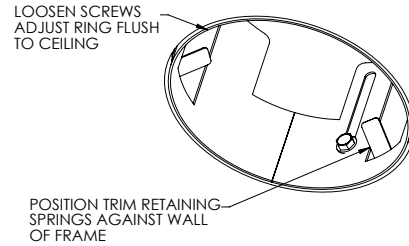

FIGURE 4
1. With finished ceiling or tile in place, check position of locking springs attached to frame. If necessary, rotate springs so that they are against vertical frame wall (Figure 4).
1. With finished ceiling or tile in place, loosen adjustment screws and position ring even with room side of ceiling (Figure 4).
2. Check position of locking springs attached to frame. If necessary, rotate springs so that they are against vertical frame wall (Figure 4).